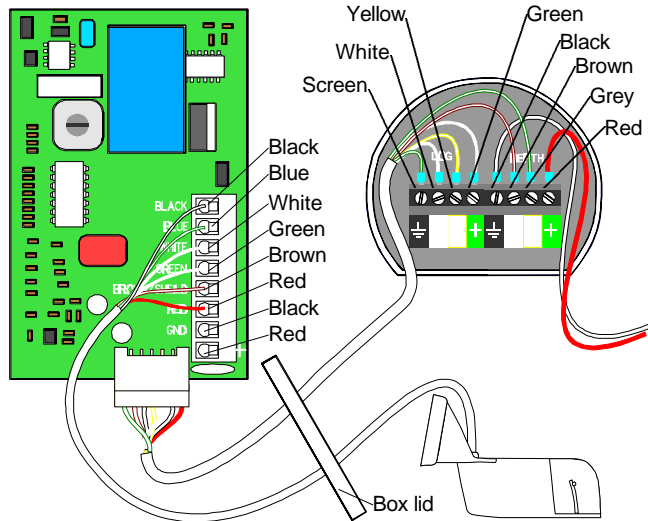

Figure 5. Connection diagram
5. Refer to figure 5 to connect the transducer to the instrument.
The transducer is connected to the instrument via the amplifier box for the instrument. Open up the box and pull out the circuit board. The 8 m (26 ft) cable from the transducer is connected to the 8-pole screw terminal. The supplied 4 m (13 ft), 7-pole instrument cable is connected to the connector on the circuit board and the other end to the instrument. Connect according to figure 5.